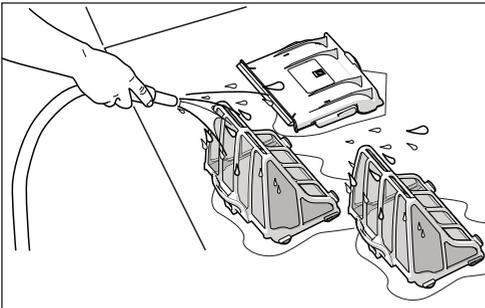

Figure 16. Wash Filter Canister
8. Empty all debris from the filter canister, then rinse the canister, the filter support and the cleaner using a hose. See Figure 16.